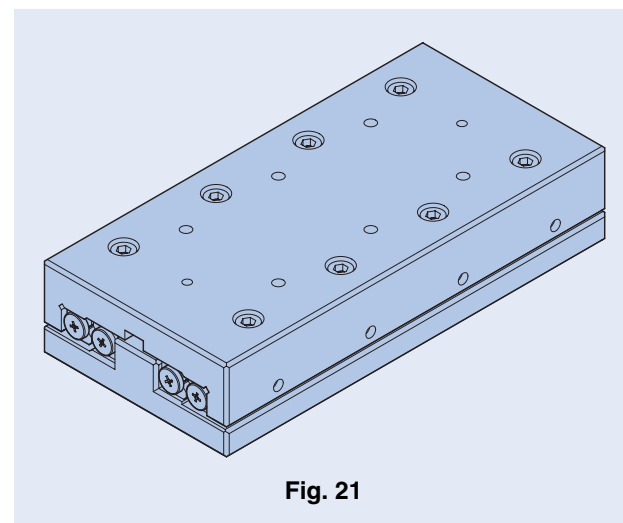

Fig. 21
- Temporarily tighten the mounting screws. (See Fig. 21)